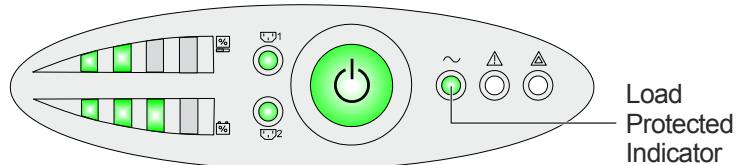

Figure 238 Load Protected Indicator on the Front Panel pf the 1550 Evolution Battery Backup Unit
5. Verify that the Load Protected indicator of the Battery Backup Unit is lit, as shown in Figure 238.